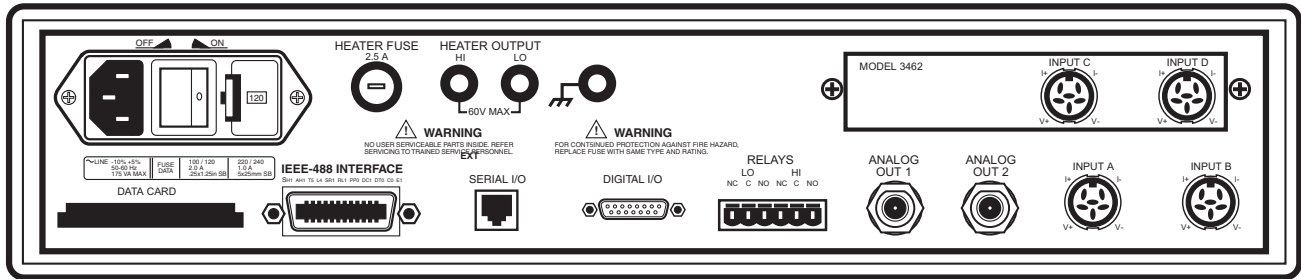

Figure 10-8. Model 340 Rear Panel with Model 3462 Option Card Installed
11. Stand instrument on face. Slide top and bottom covers on. Reposition rear plastic bezel, then rethread all cover screws. The completed installation should look like Figure 10-8.